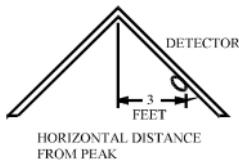

Figure 5: Recommended location to mount smoke and heat detectors in rooms with sloped, gabled, or peaked ceiling
- ♦ If some of your rooms have sloped, peaked, or gabled ceilings, try to mount detectors 3 feet (0.9 meter) measured horizontally from the highest point of the ceiling as shown in Figure 5.